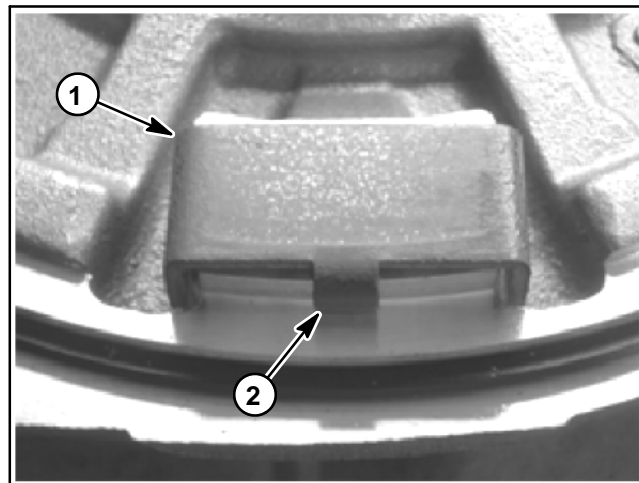

Figure 29
11. Install the thrust bearing onto the thrust button in the cover plate (Fig. 29). Make sure that the tang on the side of the thrust bearing is located toward the outer edge of the cover plate. Use grease or petroleum jelly on the back side of the thrust plate to keep the bearing in position while assembling the cover plate assembly to the gear case.